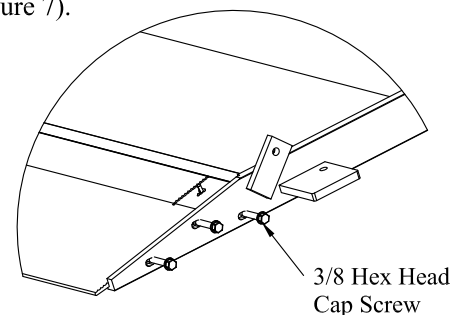

Figure 7: Screw location.
5. **Apply** thread locker (Loctite® 263 or equal) on the full length of exposed thread of each 3/8" hex cap screw (Figure 7).
6. **Start** to thread each 3/8 hex cap screw through the lid end and into the taper section (Figure 7).